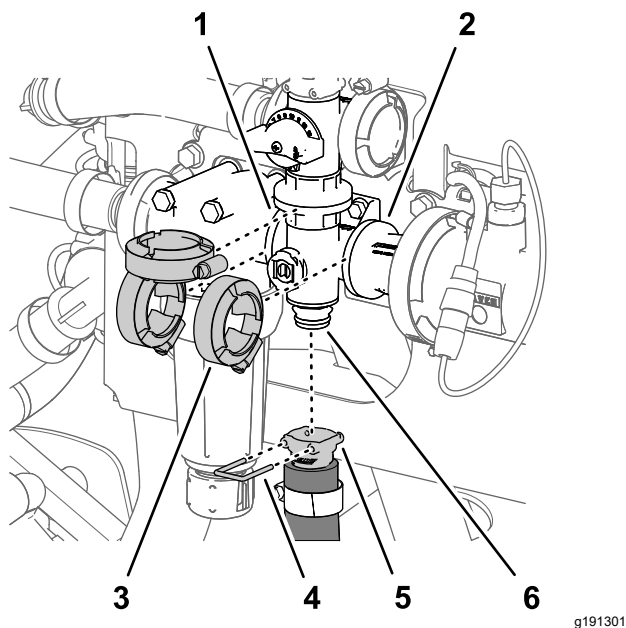

Figure 136
- Align the flange of the agitation-valve manifold and 3 gaskets with the flanges of the agitation-bypass valve, pressure filter head, and coupling adapter (Figure 135 and Figure 136).
2. Loosely secure the agitation-valve manifold to the agitation-bypass valve, pressure filter head, and coupling adapter (Figure 136) with the 3 flange clamps that you removed in Removing the Agitation-Manifold Valve (page 85).
5. Tighten the 3 flange clamps by hand (Figure 136).
6. Assemble the quick-connect coupler of the agitation hose onto the quick-connect fitting of the agitation-valve manifold with the quick-connect pin (Figure 136).